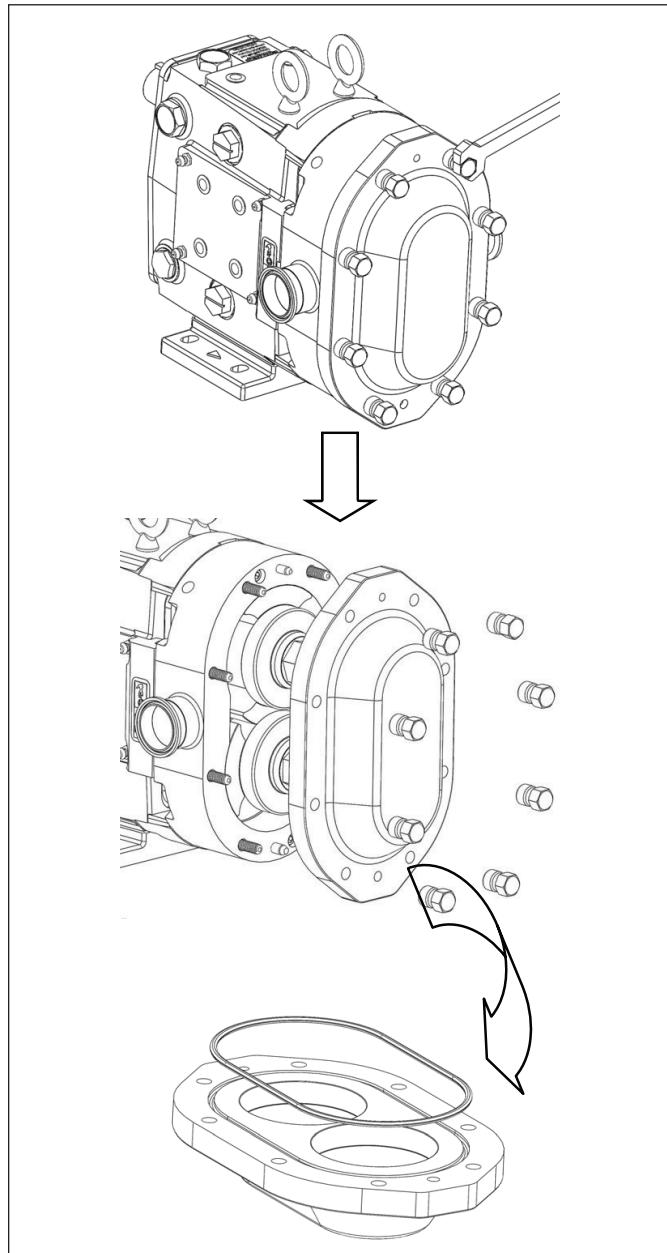

Figure 23. Removing ZP3 Cover
1. Start by removing the cover nuts using an appropriate wrench (Figure 23). During disassembly place all parts on a clean, protected surface with finished surfaces and seal faces facing up. Tap the cover off using a soft mallet. Remove the cover o-ring and inspect.